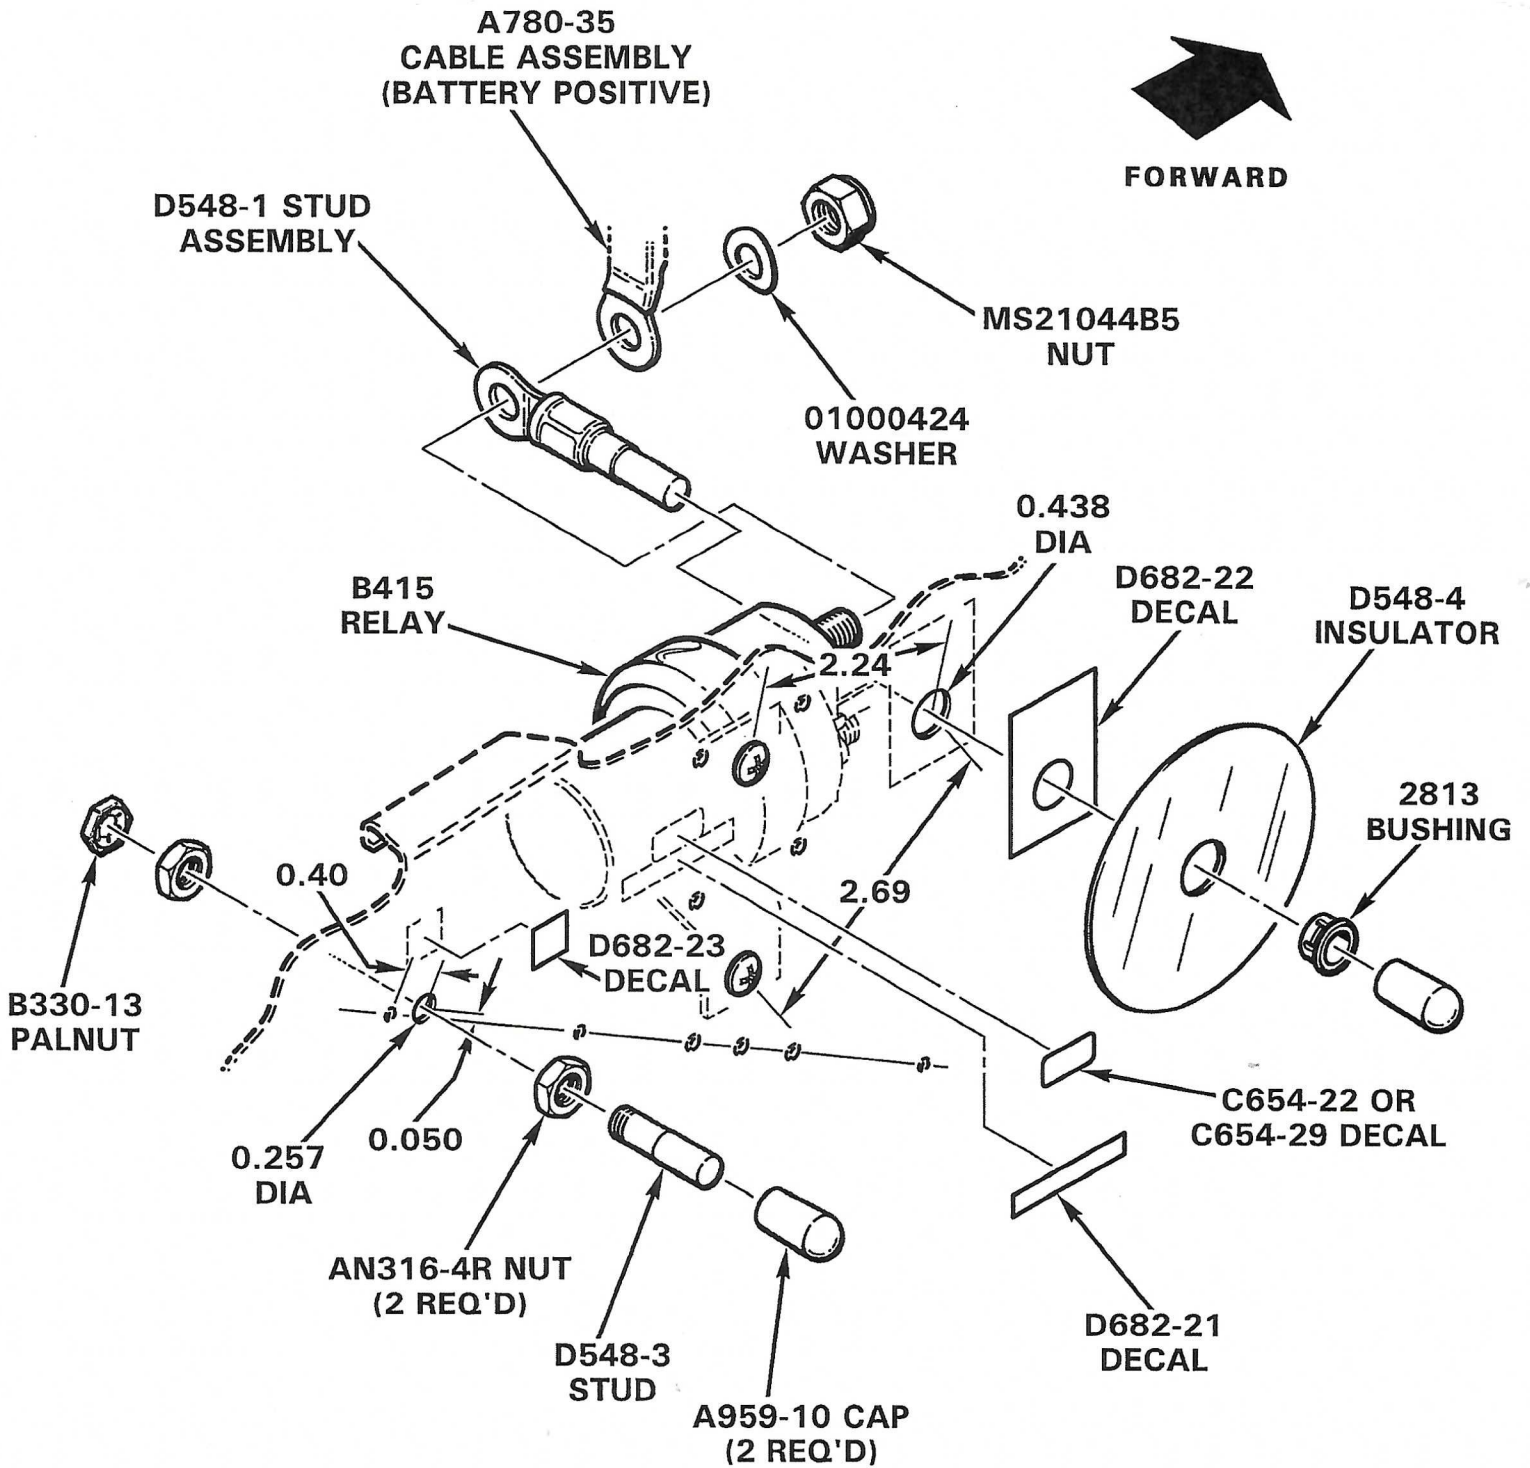

FIGURE 1
Refer to Figure 1. Review all instructions before proceeding.
5. To locate 0.438-inch diameter hole, measure 2.24 inches from center of relay upper mounting screw and 2.69 inches from center of relay lower mounting screw as shown in Figure 1. Drill 0.438-inch hole at measured location.
6. Install D682-23 decal, D548-4 insulator and 2813 bushing as shown in Figure 1.
7. Drill one 0.257-inch diameter hole at location specified in Figure 1. Remove paint at hole from both sides of keel panel at nut contact area.
8. Install D548-3 stud, D548-1 stud assembly, and A780-35 battery cable as shown in Figure 1.
9. Install decals and A959-10 caps as shown in Figure 1.